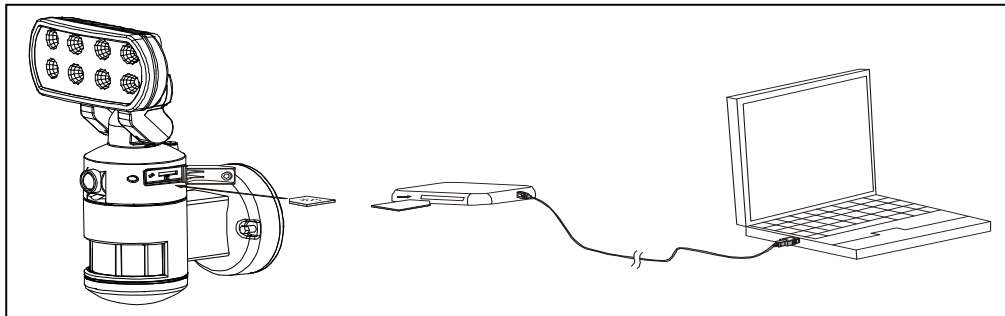

Fig. 12
①		Start	②		YEAR Setting
③		MONTH Setting	④		DATE Setting
⑤		HOUR Setting	⑥		MINUTE Setting
⑦		VIDEO/PHOTO Setting	⑧		Finish
1. Viewing image by computer through a card reader (see fig. 12)